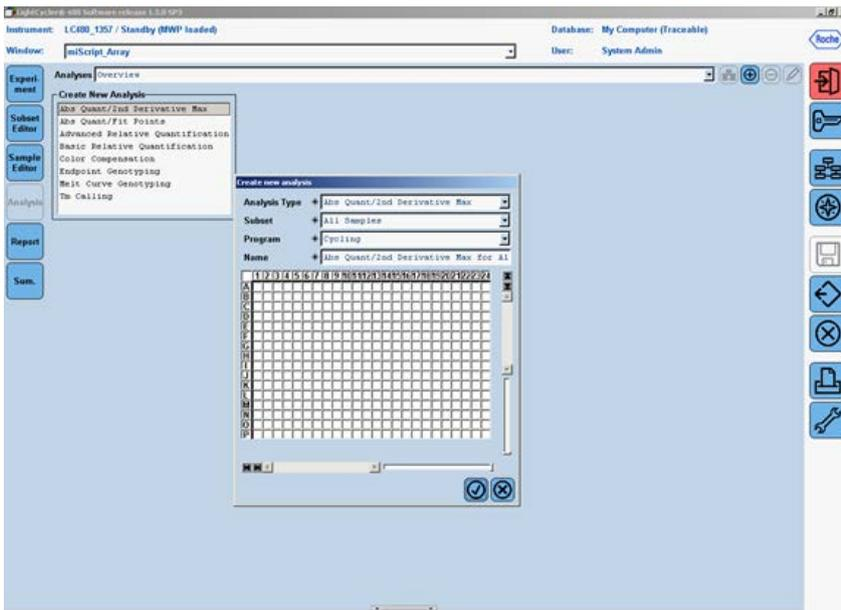

Figure 8. Setting up the analysis for the Second Derivative Maximum.
20. **Obtaining the Crossing Point (Cp) Cycle values:** Once the selected run file is open, click the "Analysis" button on the left-hand side of the window. In the "Create new analysis" list, double-click to select "Abs Quant/2nd Derivative Max". In the "Create new analysis" window that opens, make sure the "Analysis Type" is "Abs Quant/2nd Derivative Max" (Figure 8). Click  to confirm the selection.